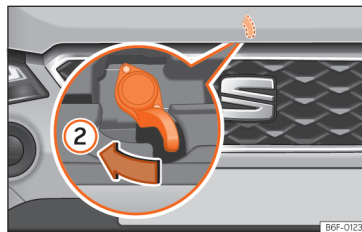

Fig. 178 Lever under the bonnet.
- To lift the bonnet, press towards the left on the lever located under the bonnet, in the centre »»» **Fig. 178 ②**. The fastening hooks are unlocked.